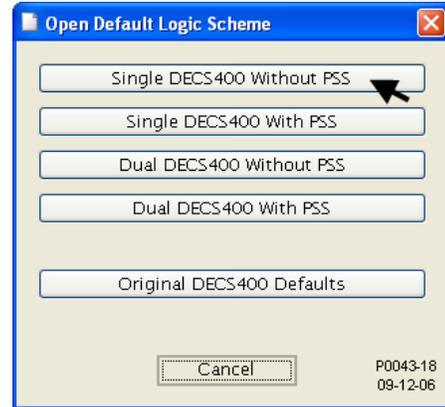

Figure 9-16. Open Default Logic Scheme Window
1. Open the “Single DECS-400 Without PSS” logic scheme in BESTCOMS by clicking **File**, **Open Default Scheme....** When the Open Default Logic Scheme window opens, click the button labeled “Single DECS-400 Without PSS” (see Figure 9-16). Click the **Yes** button in the warning dialog box to continue opening the logic scheme. Once the logic scheme has been opened, a second dialog box will appear. Click the **OK** button.